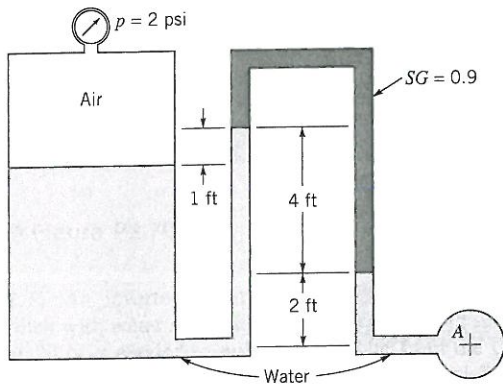

Figure P2.56
2.56 Determine the pressure of the water in pipe A shown in Fig. P2.56 if the gage pressure of the air in the tank is 2 psi.